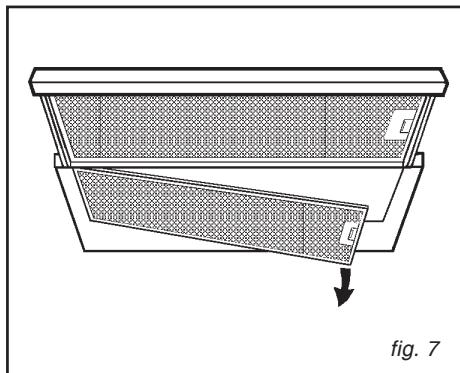

fig. 7
• Removing the grease filters (fig. 7)
At the handle, push the stop inwards and pull the filter downwards (fig.7); open the trolley and take off the other filter doing the same.